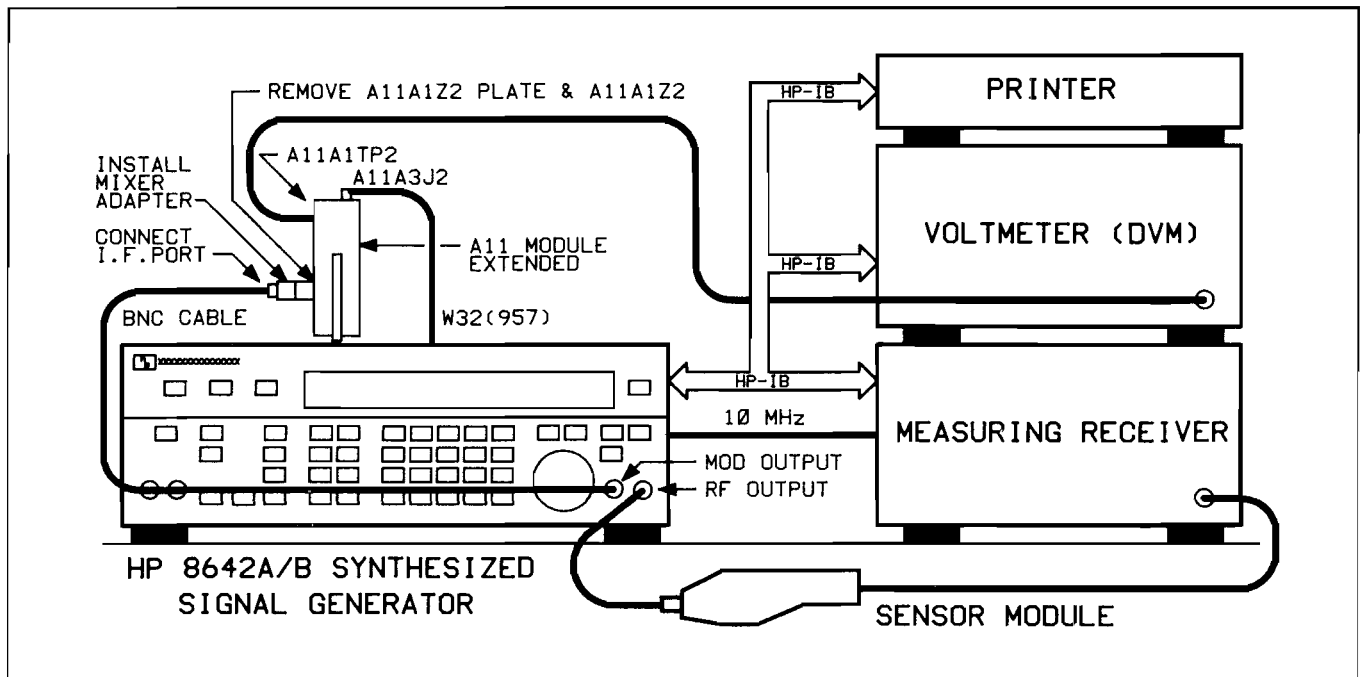

Figure 8N-13. Set-up 3
12. When “**WAITING FOR SET-UP 3** .V26” appears: (Refer to Figure 8N-13.)
Remove the phase detector Z1 cover from left side of the A11 Module. (Refer to Figure 8N-7.)